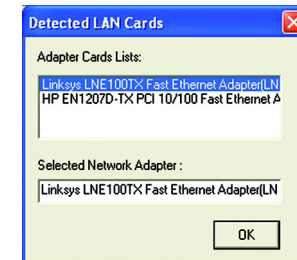

Figure D-2: Detected LAN Cards
5. The *Detected LAN Cards* screen will appear, as shown in Figure D-2. Select the LAN card the PrintServer is connected to, and then click the **OK** button. Select the firmware file you want to use.